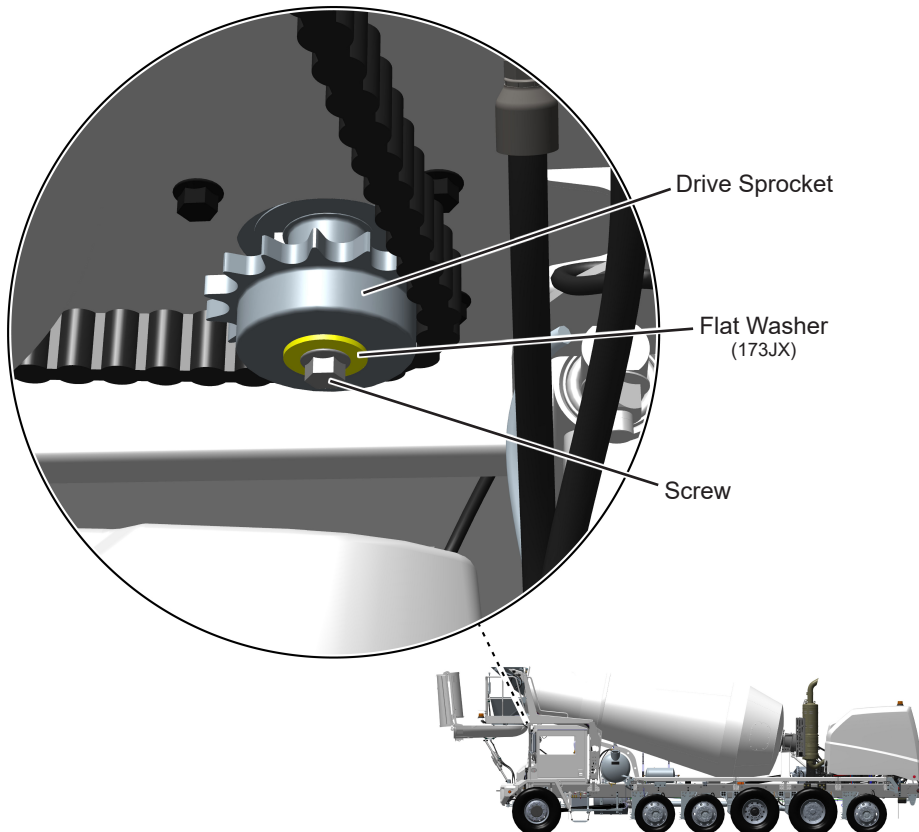

Figure 1 - Turntable Gearbox Drive Sprocket
3. Locate turntable gear box drive sprocket under front superstructure. See Figure 1.
4. Loosen and remove 0.50-13 x 1.25 inch screw and flat washer from drive sprocket. See Figure 1.
6. Apply Loctite #242 to threads of screw and reinstall in drive sprocket. See Figure 1. Final tighten to 80 ft. lbs.